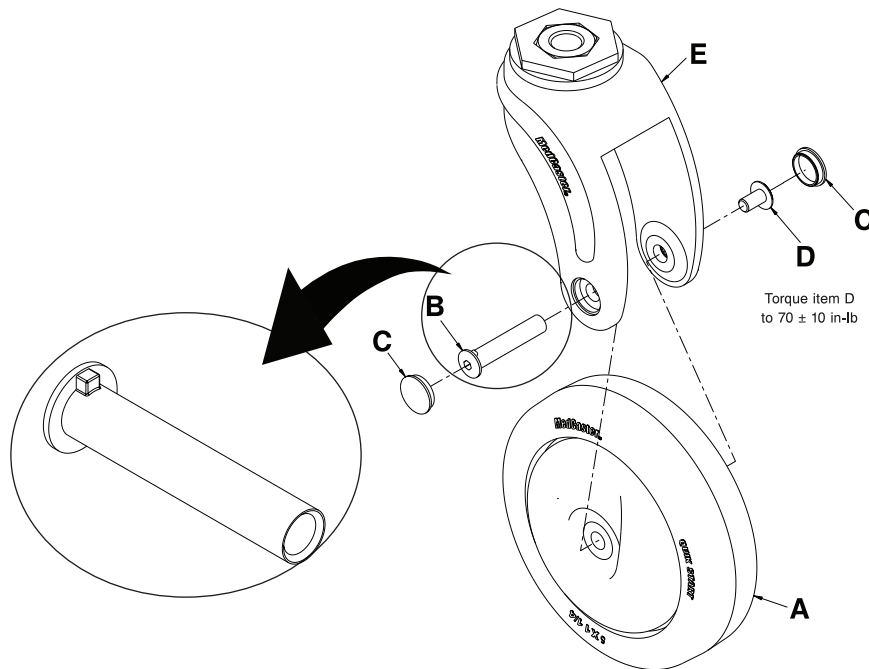

Figure 25: Front caster wheel replacement
2. Using a pick, remove and save the caster wheel axle barrel nut covers (C) (Figure 25 on page 42).
3. Using two 5/32" hex wrenches, remove the axle barrel nut (B) and axle screw (D). Save the axle barrel nut and axle screw. When reinstalling the axle screw, use a 3/8" drive torque wrench to torque the axle screw (D) to 70 ± 10 in-lb.
4. Grasp the caster wheel (A) and pull outward to remove the wheel from the fork (E). Discard the wheel.
Note: The axle barrel nut (B) head is keyed (Figure 25 on page 42). Properly align the nut in the caster fork (E) during reinstallation.